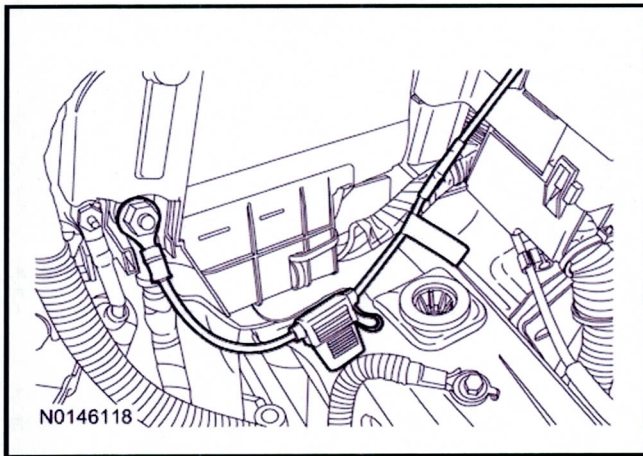

Figure 7 - Article 13-1-5
29. Connect the red power cable to the fuse junction panel battery terminal. (Figure 7)